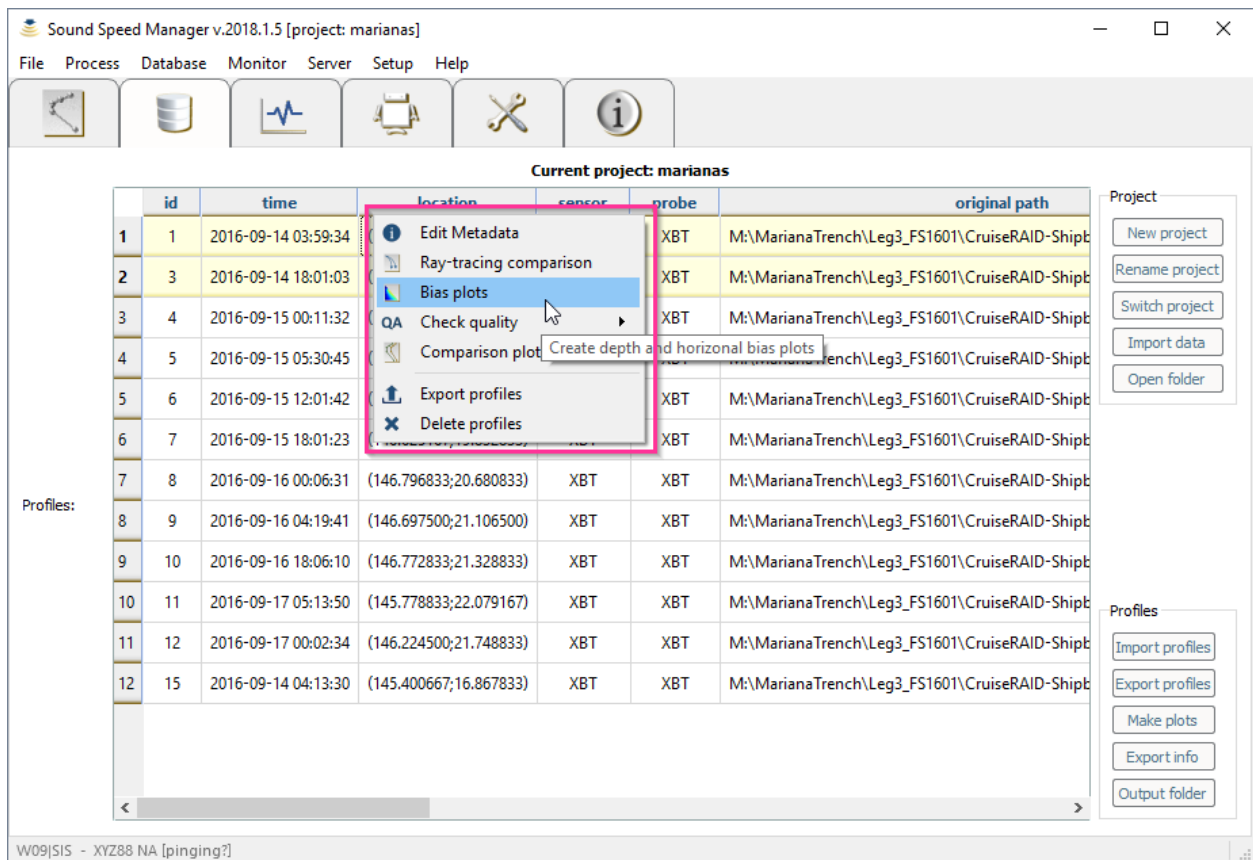

Fig. 2.47: The pair-selection context menu provides functionalities like ray-tracing comparison (Fig. 2.48) and bias plots (Fig. 2.49).
- Pair-profile selection (Fig. 2.47).